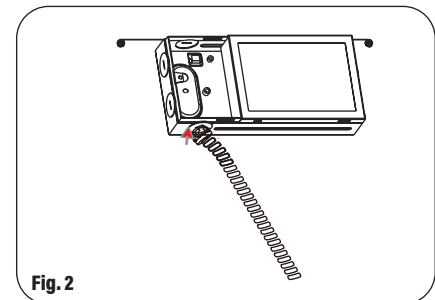

Fig. 2
3. Connect the power wire to the junction box. (Fig. 2) Use the line pressing board clamp on the power cord, then tighten the screw. Replace and secure the cover of the junction box using the screw.